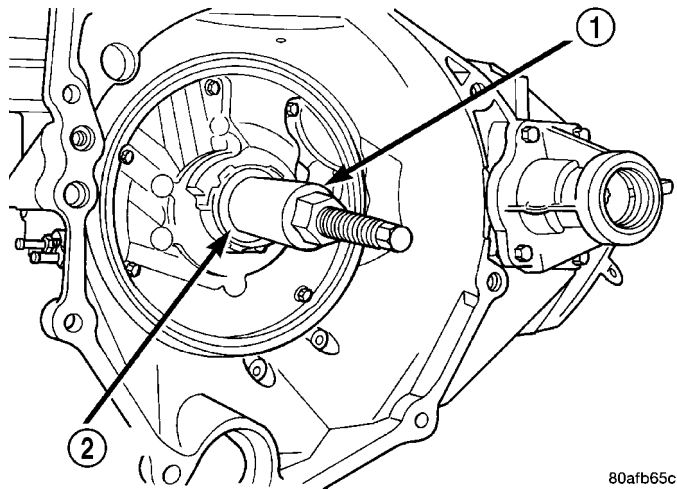

Fig. 257 Remove Oil Pump Seal
(1) Remove transaxle from vehicle (Refer to 21 - TRANSMISSION/TRANSAXLE/AUTOMATIC - 41TE - REMOVAL).
(2) Using Tool C-3981-B, remove oil pump seal (Fig. 257).